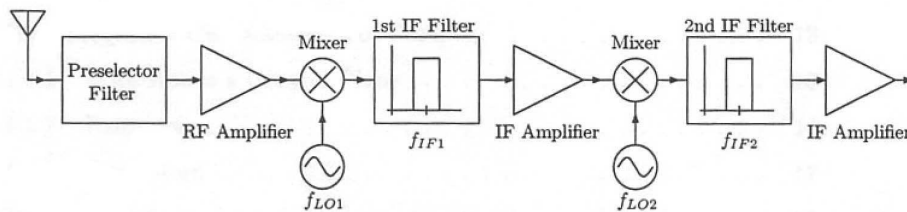

Figure 4.1: Block diagram of a double-conversion superheterodyne receiver.
The goal of this lab is to build and characterize a double-conversion superheterodyne FM receiver. The block diagram of the receiver you will construct is shown in Figure 4.1.
16. Construct the double-conversion superheterodyne FM receiver from Figure 4.1. It is probably all right to ignore the preselector and RF amplifier at this time, although you should keep this in mind during the lab. So what remains is to connect the output of your VCO to LO port of the mixer, take the mixer output to the filter and then amplifier, completing the first stage.